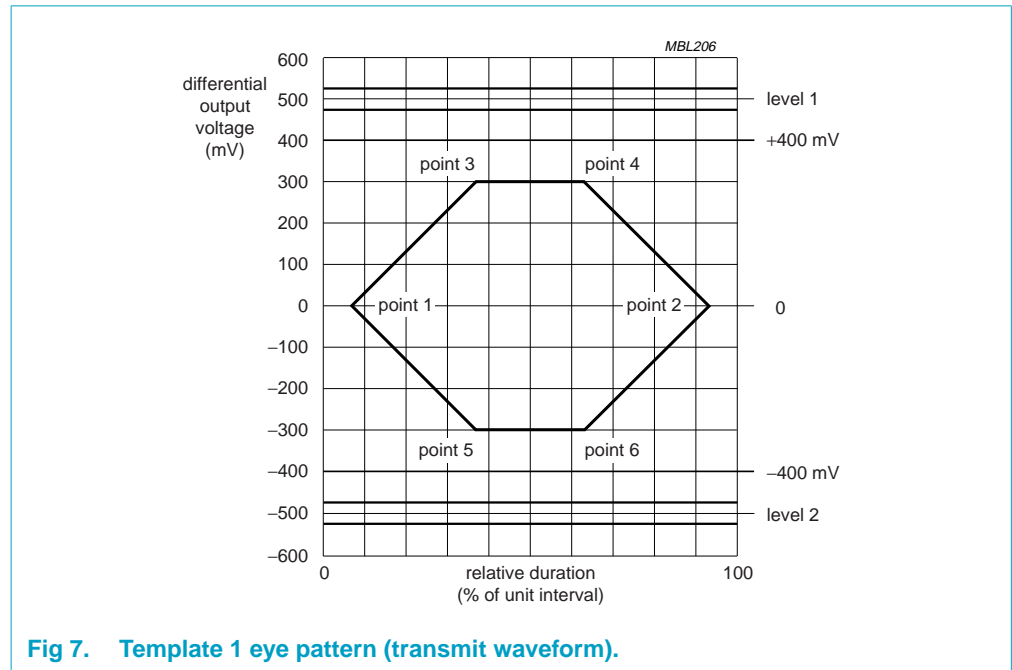
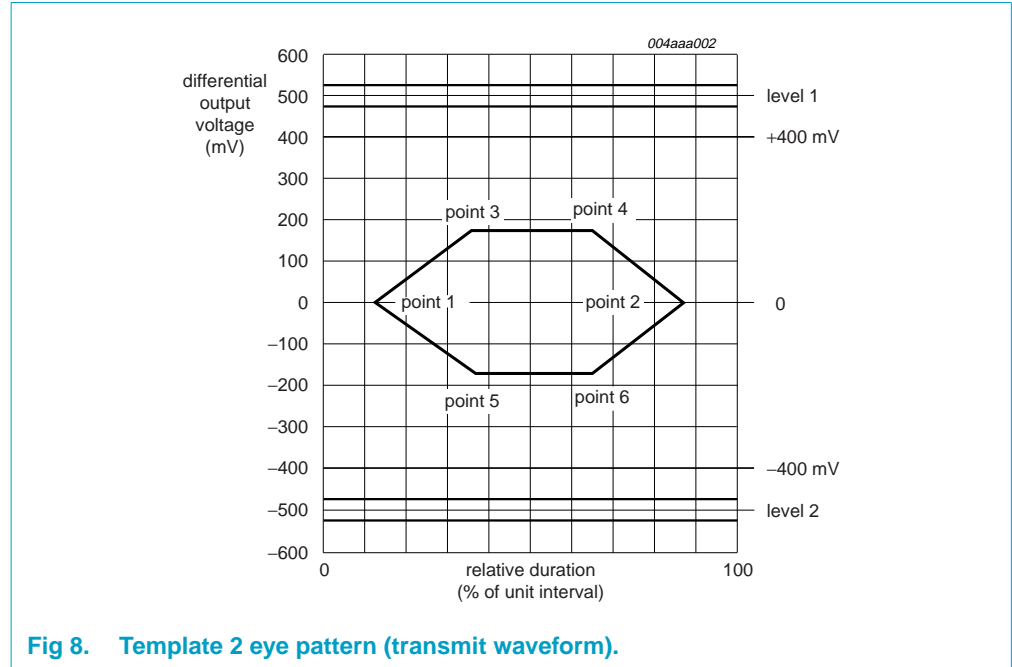

Fig 7. Template 1 eye pattern (transmit waveform).
Fig 8. Template 2 eye pattern (transmit waveform).
| - | driver waveform requirements | eye patterns of Template 1 and Template 2; see Figure 7 and Figure 8 | ^[3] | see Table 77 | | |
The eye pattern in Figure 7 defines the transmit waveform requirements for a hub (measured at TP2) or a device without a captive¹ cable (measured at TP3). The corresponding signal levels and timings are given in Table 77. Timings are given as a percentage of the unit interval (UI), which represents the nominal bit duration T_{PERIOD} for a 480 Mbit/s transmission rate.
The eye pattern in Figure 8 defines the transmit waveform requirements for a device with a captive cable (measured at TP2). The corresponding signal levels and timings are given in Table 78. Timings are given as a percentage of the unit interval (UI), which represents the nominal bit duration T_{PERIOD} for a 480 Mbit/s transmission rate.